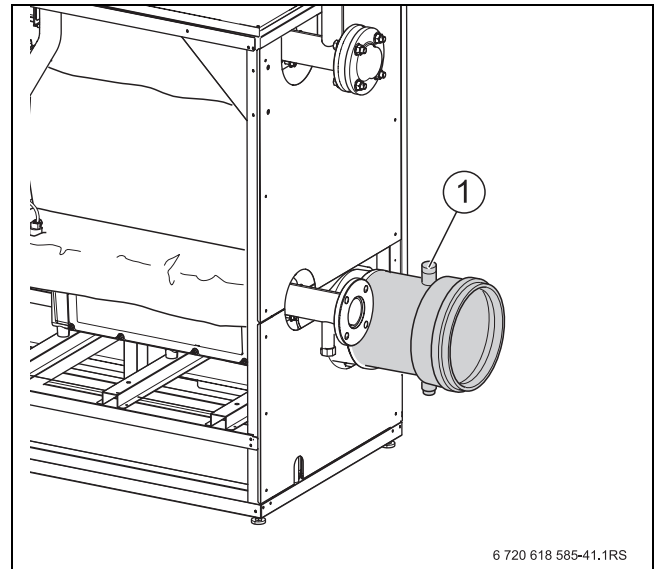

Fig. 36 Recording actual values
- ▶ Insert the test sensor through the test port (→ Fig. 36, page 35) in the flue into the core flow and check the CO2 content.